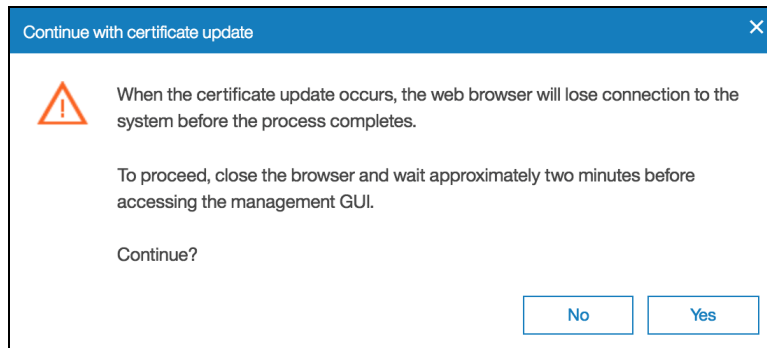

Figure 7-78 Certificate update warning
7. You are prompted to confirm the action, as shown in Figure 7-78 on page 283. Click **Yes** to proceed. The signed certificate is installed.